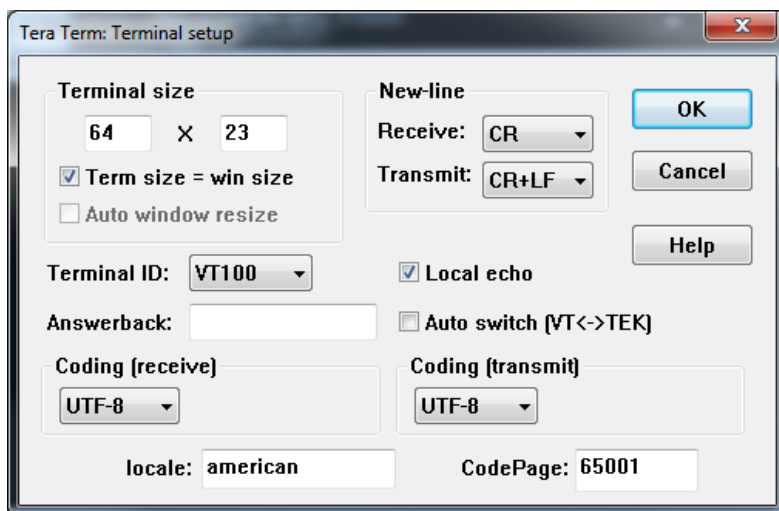

Figure 9. Terminal Setup showing Tera Term with Local Echo on and Transmit: CR+LF
1. Open Tera Term and select Setup -> Terminal, check Local Echo and Transmit to CR+LF, as shown in Figure 9.